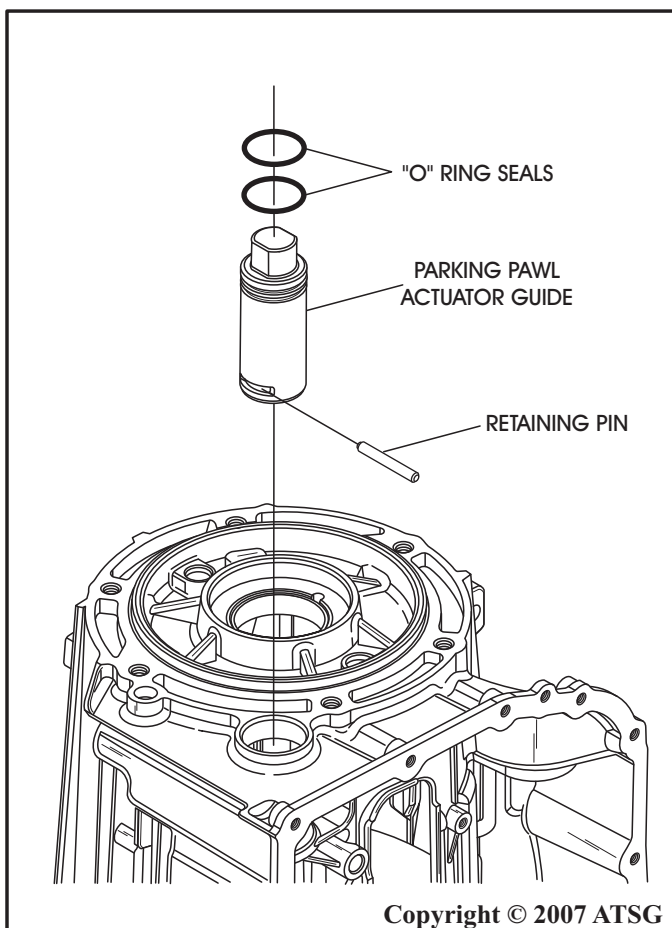

Figure 56
7. Remove park pawl actuator guide retaining pin and actuator guide, as shown in Figure 56.
10. Install the park pawl actuator guide, as shown in Figure 56, ensuring you do not damage the "O" ring seals.
11. Install the actuator guide retaining pin into the case, as shown in Figure 56.